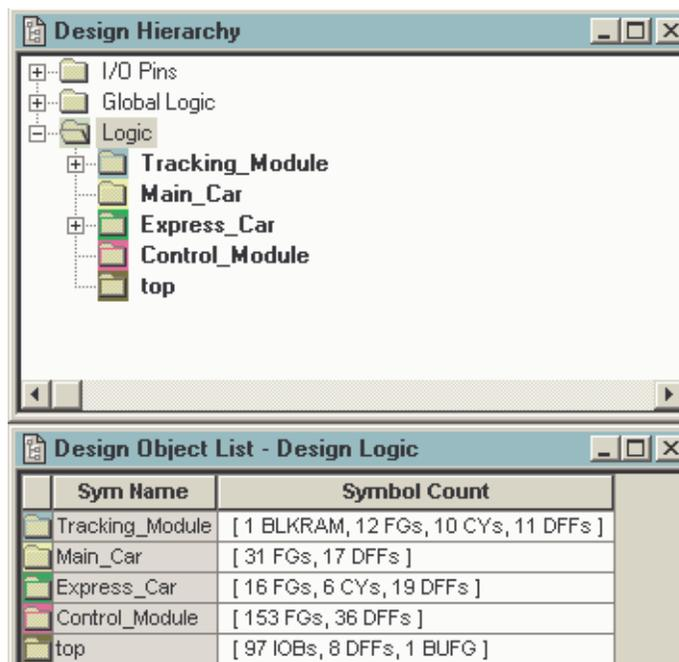

Figure 2: Design Hierarchy
2. In the Hierarchy Window, expand the Logic Folder. This will display the hierarchy for the design, as shown in Figure 2. Also in Figure 2, notice that the Design Object List window displays a list of components that are used in each piece of hierarchy.
3. Locate each Logic Group within the Hierarchy window. Typically, the upper most levels of hierarchy will be the Logic Groups (refer to the **Identifying Logic Groups** section for more information). In **Figure 2**, there is a top level and four Logic Groups. Each of the four Logic Groups will be assigned to an Area Group using PACE.